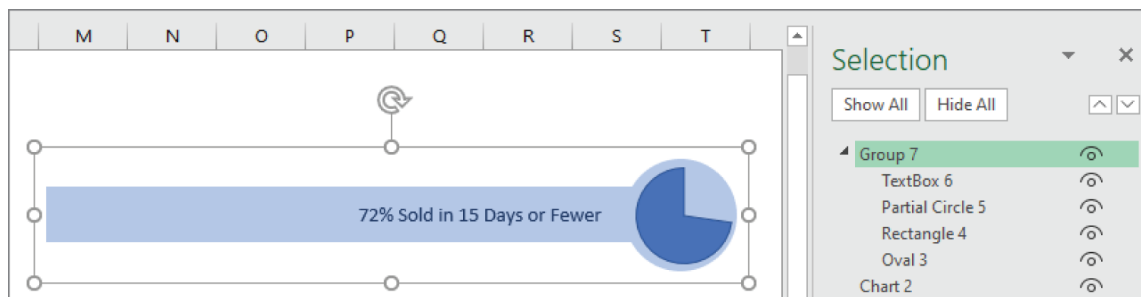

Figure 6.25: Group shapes to make them easier to move.
9. While the shapes are still selected, choose Shape Format ⇨ Arrange ⇨ Group Object ⇨ Group from the Ribbon to create a group that will be easier to move around. Figure 6.25 shows the shapes and the Selection task pane.